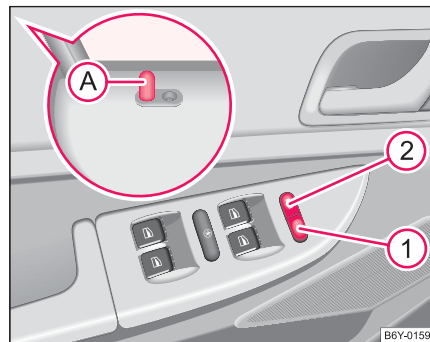

Fig. 23 Buttons for central locking
The securing head (A) will move upwards or downwards in the door when unlocking or locking ⇒ page 42, fig. 23.
- with the securing knobs in the front doors (A) ⇒ page 42, fig. 23 (only for locking)
- Deactivating the safe securing system means that the warning light next to the securing knob (A) in the driver's door ⇒ page 42, fig. 23 will not flash. This is not the case, however, for vehicles with an anti-theft alarm system* since the indicator light is showing that the system is active.
- Press button (1) ⇒ fig. 23 or press the securing knob (A) downwards.
- Press button (2) ⇒ fig. 23.
- Figure ⇒ page 42, fig. 23 shows operation of vehicles which are fitted ⇒ page 47 with the window convenience operation*. ■